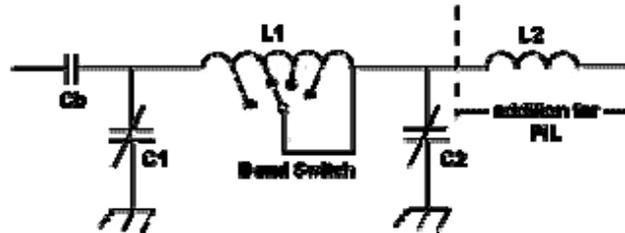

Figure-4
With the advent of lower loss coaxial cable and advancements in feeding balanced antennas with unbalance line, the "Pi" and "'Pi'-L" Output Coupling Networks have become the RF Tank Circuit of choice. In Figure-4 above, **both the "Pi" and "'Pi'-L" Networks use C1 in conjunction with L1 to properly match the Plate Load Resistance (RL). From there C2 works with L1 (and L2 in the "Pi'-L') to match the Load of the RF Transmission Feedline (normally 50 Ohm characteristic impedance coaxial cable). The values of C1, L1, C2 and L2 should be selected for the lowest band of intended operation. Remember that the caps are adjustable from near zero to their maximum value.** L1 becomes adjustable with the introduction of a rotary switch used to tap and short portions of L1, reducing its operational inductance in the process. In the "Pi'-L" network, L2 is normally a fixed inductor.